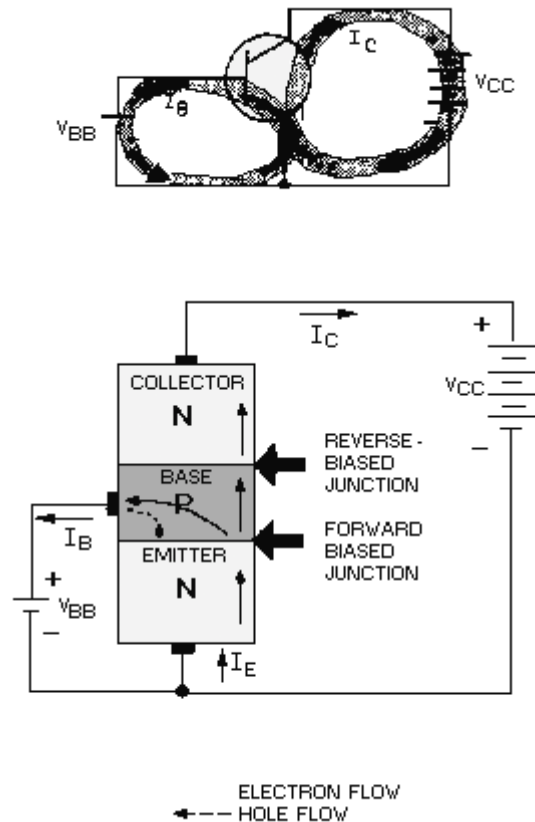

Figure 2-7.—NPN transistor operation.
**NPN JUNCTION INTERACTION.**—We are now ready to see what happens when we place the two junctions of the NPN transistor in operation at the same time. For a better understanding of just how the two junctions work together, refer to figure 2-7 during the discussion.